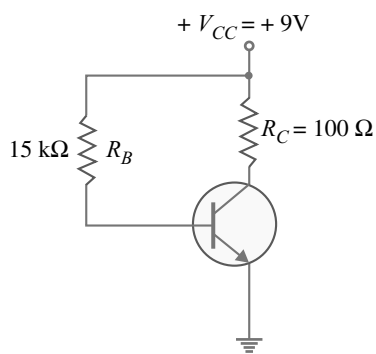

Fig. 7.64
12. The base bias circuit in Fig. 7.64 is subjected to a temperature variation from  $0^\circ\text{C}$  to  $70^\circ\text{C}$ . The  $\beta$  decreases by 50% at  $0^\circ\text{C}$  and increases by 75% at  $70^\circ\text{C}$  from its normal value of 110 at  $25^\circ\text{C}$ . What are the changes in  $I_C$  and  $V_{CE}$  over the temperature range of  $0^\circ\text{C}$  to  $70^\circ\text{C}$ ?